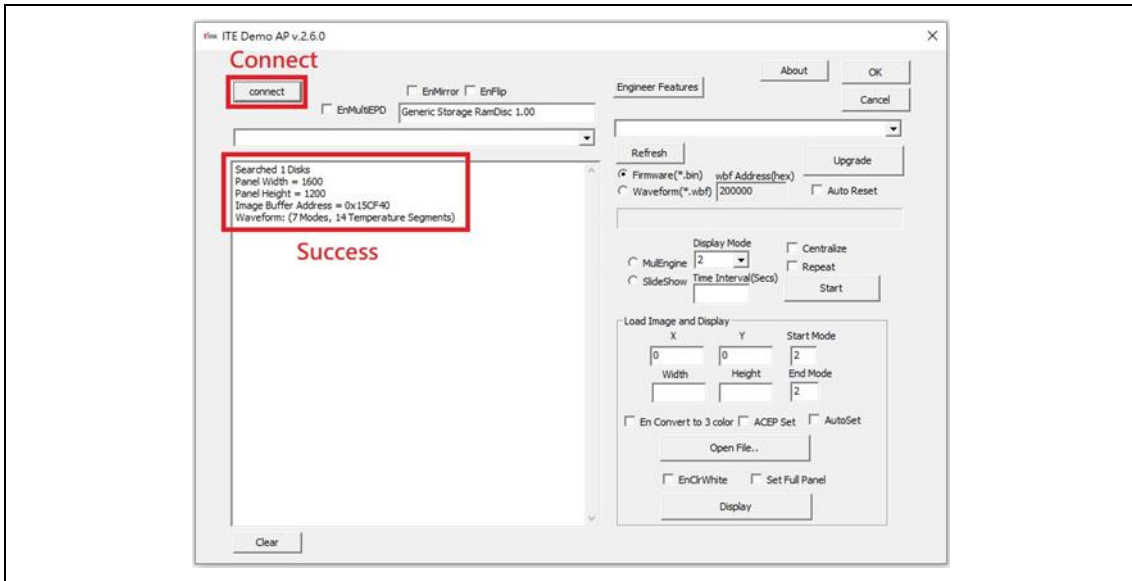

Figure 3-2-g
- Connect to the CONCERTO driving board. (Figure 3-2-g)
- Slide Show display (Not Repeat) (Figure 3-2-h)